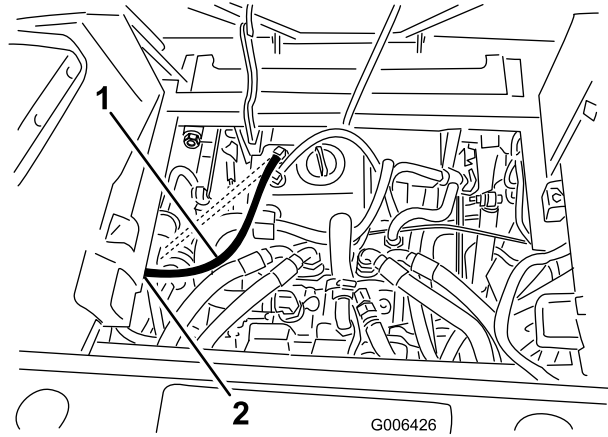

Figure 6
1. Loosen the nut and bolt securing the vent hose cable clamp to the frame (Figure 6).
3. Reposition the hose away from damper as shown in Figure 6.